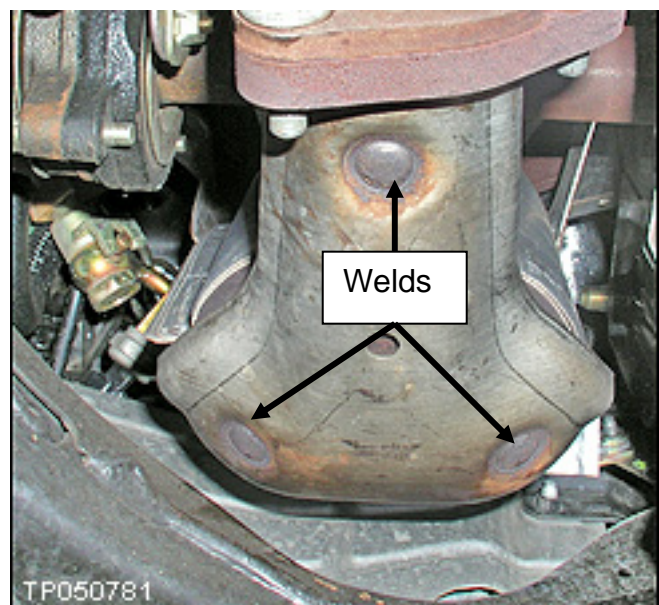

Figure 3
3. Inspect the Bank-1 heat shield welds for separation see Figure 3.